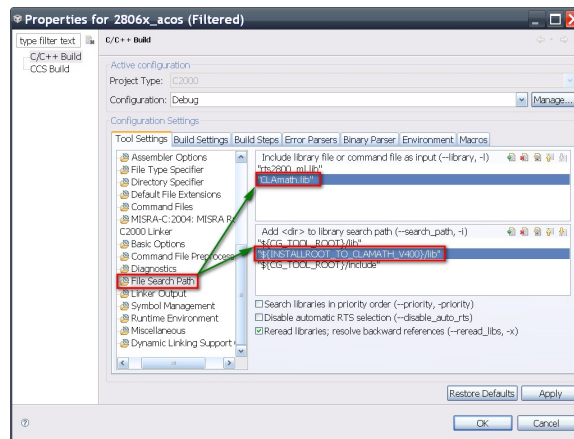

Figure 4.5: Adding the library and location to the file search path
3. Add the name of the library and its location to the **File Search Path** as shown in Fig. 4.5.